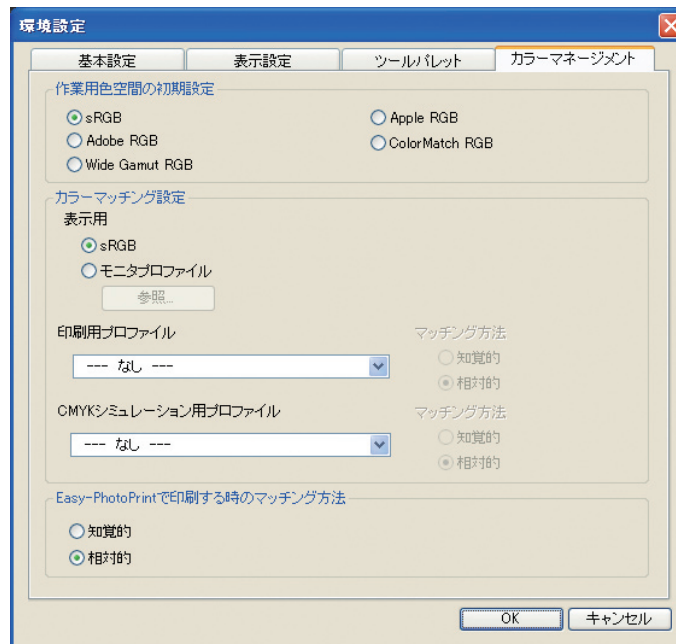

Fig. 022 Preferences window / Color Management tab
- The color matching method up to version 1.6 was fixed at "Perceptual", but the "Colorimetric" option has been added to cater to a wider range of users. The range of supported color spaces has also been expanded from Adobe RGB only in version 1.6 and earlier to 5 color spaces in version 2.0 (sRGB, Adobe RGB, Wide Gamut RGB, Apple RGB and ColorMatch RGB) (Fig. 022).